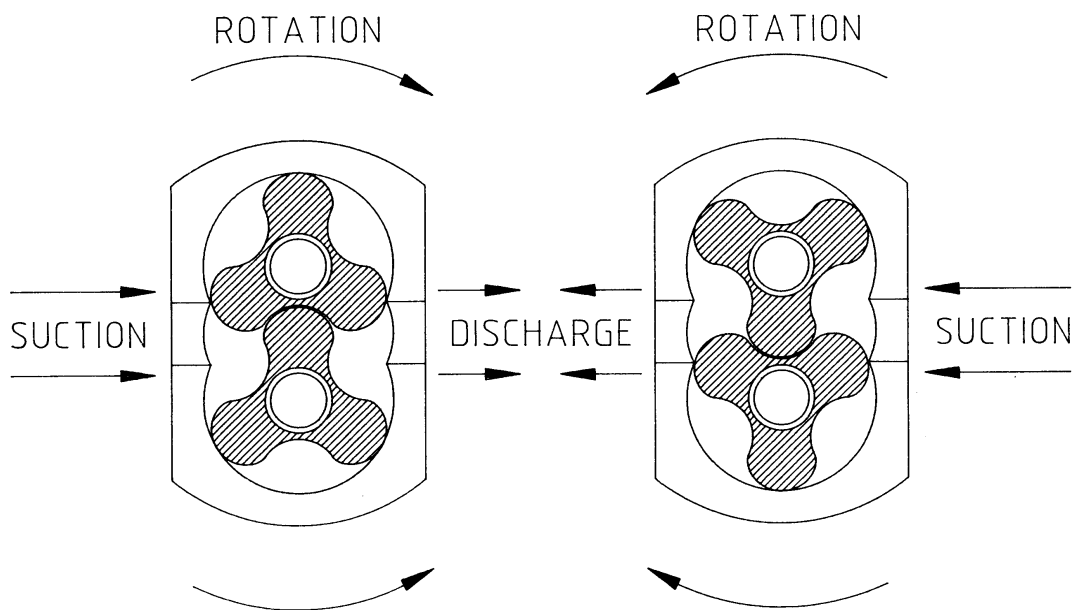

Fig 8 Rotation against Suction and Discharge
- Make sure that the drive shaft rotation is correct for the direction of flow required. See Fig 8.